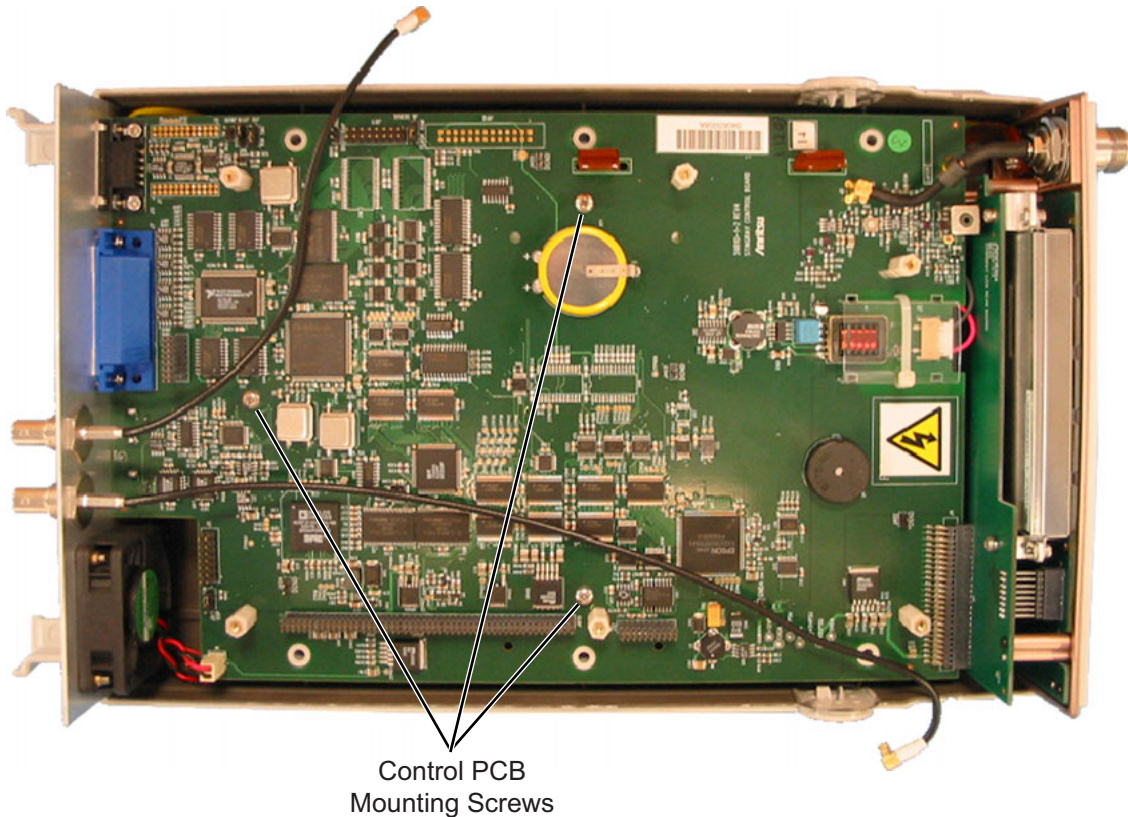

Figure 6-4. Main Control PCB Screw Removal
1. Remove the three screws that secure the control PCB to the lower case as shown in Figure 6-4